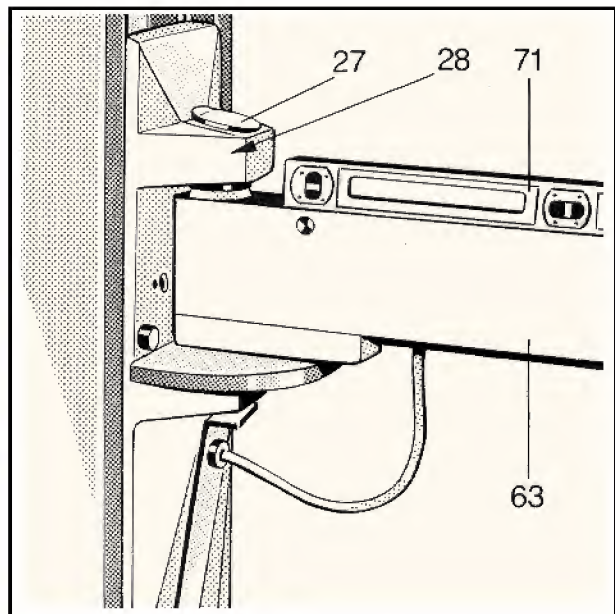

Fig. 20
Check tube support arm (Fig. 20/item 63) with water level (Fig. 20/item 71). If there is a difference, remove plastic cap (item 27) and adjust set bushing (item 28) by adjusting threaded pins. This check resp. adjustment has also to be done in the 90° tilt positions.